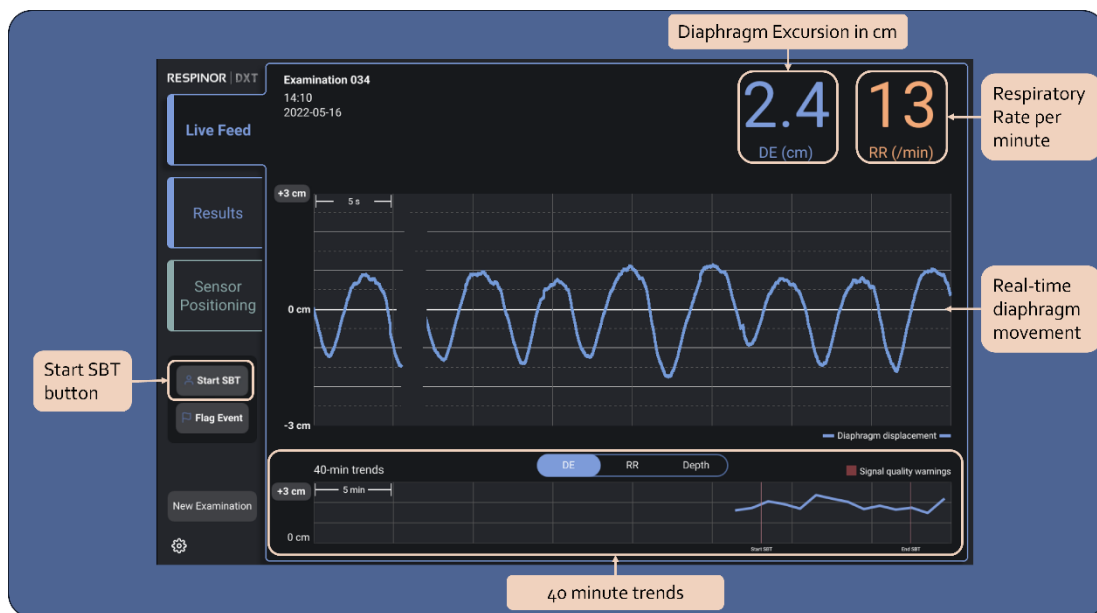

Figure 9. Overview of the Live Feed.
- Figure 9 shows the Live Feed, highlighting the relevant features for an examination.
- The values are calculated as highlighted in Figure 9 and updated for each breath cycle.